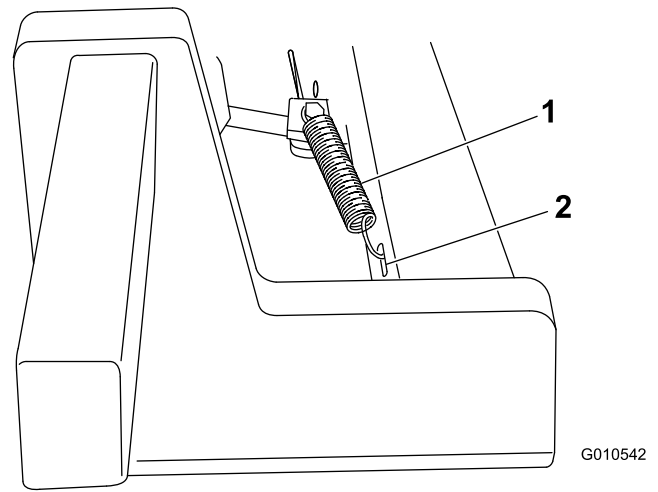

Figure 4
6. Remove the cotter pins from the clevis pins holding the brake struts and yokes together, and discard the cotter pins. Keeping the clevis pin in place, install the short end of the spring into the hole in the clevis pin to retain the parts together. Connect the other end of the springs to the slotted holes in the lift arms (Figure 4).